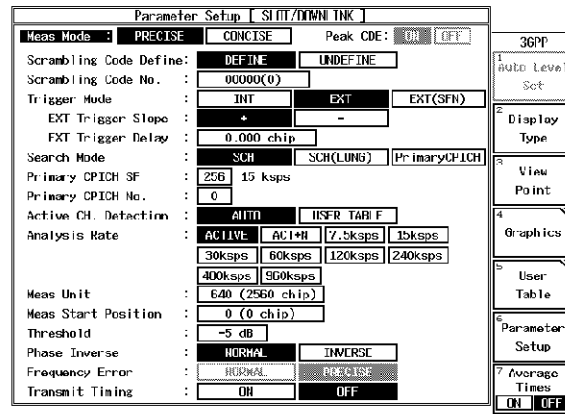

Figure 6-9 Setting of Measurement Parameters for Down Link (IQ Input)
- On the R3267 Series, set the measurement parameters as shown in Figure 6-9.